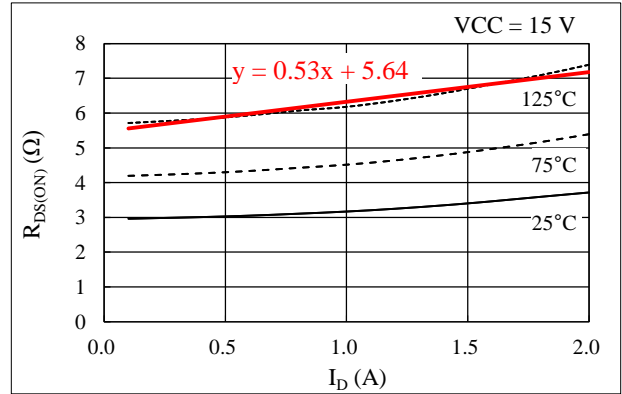

Figure 14-2. Linear Approximate Equation of  $R_{DS(ON)}$  vs.  $I_D$  Curve
Steady-state loss in a power MOSFET can be computed by using the  $R_{DS(ON)}$  vs.  $I_D$  curves, listed in Section 15.3.1. As expressed by the curves in Figure 14-2, linear approximations at a range the  $I_D$  is actually used are obtained by:  $R_{DS(ON)} = \alpha \times I_D + \beta$ . The values gained by the above calculation are then applied as parameters in Equation (7), below. Hence, the equation to obtain the power MOSFET steady-state loss,  $P_{RON}$ , is: